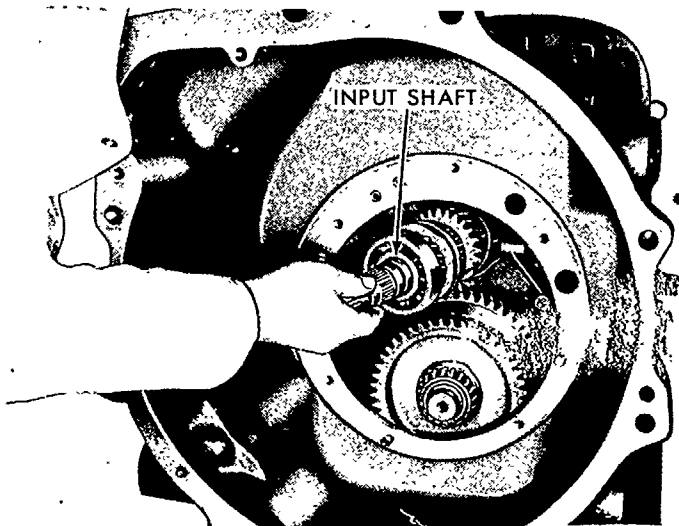

Figure 92
3. With the P.T.O. shift lever in the 1000 rpm position, remove the input shaft by tapping it forward. Refer to Figure 92.